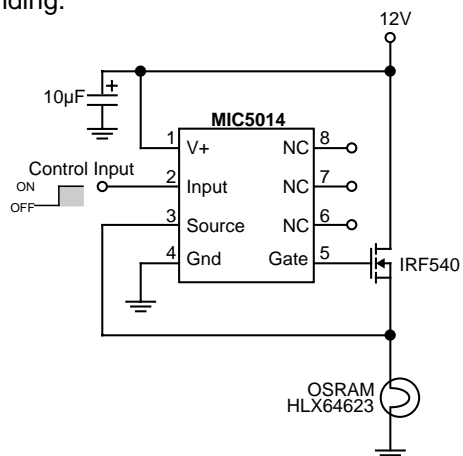

Figure 8. Halogen Lamp Driver
**Incandescent/Halogen Lamp Driver** (Figure 8) The combination of an MIC5014/5015 and a power FET makes an effective driver for a standard incandescent or halogen lamp load. Such loads often have high inrush currents, as the resistance of a cold filament is less than one-tenth as much as when it is hot. Power MOSFETs are well suited to this application as they have wider safe operating areas than do power bipolar transistors. It is important to check the SOA curve on the data sheet of the power FET to be used against the estimated or measured inrush current of the lamp in question prior to prototyping to prevent “explosive” results.